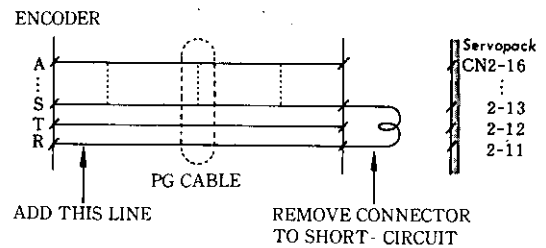

Fig. 7.4 Setup by PG Cable
2. If the motor is built in the machine and setup must be performed without contacting the encoder connector, set the PG cable as shown in Fig. 7.4 and remove Servopack CN2 to short-circuit with Servopack side connectors.